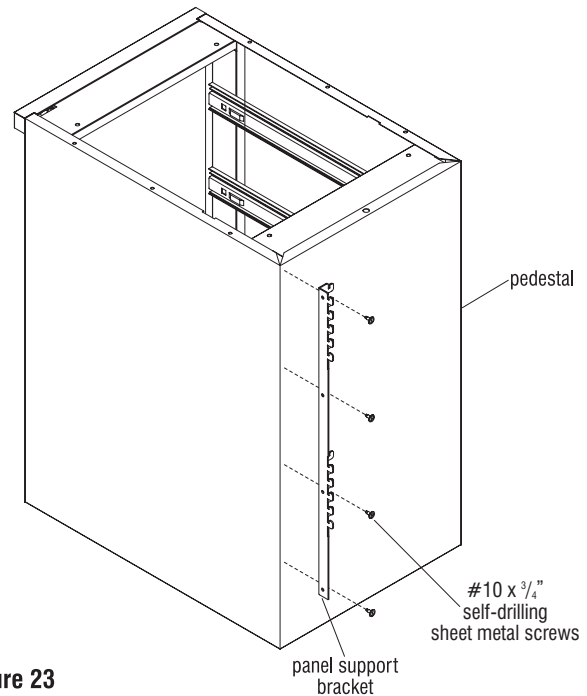

Figure 23
1. Position the panel support bracket squarely along the top and side edge of the pedestal as shown, making sure that the teeth are facing up (Figure 23).
Note: For left-hand installations align the bracket with the left side of the cabinet. For right-hand installations align the bracket with the right side of the cabinet (Figure 23).
2. Using the four #10 x 3/4" self-drilling sheet metal screws, carefully secure the bracket to the cabinet (Figure 23).